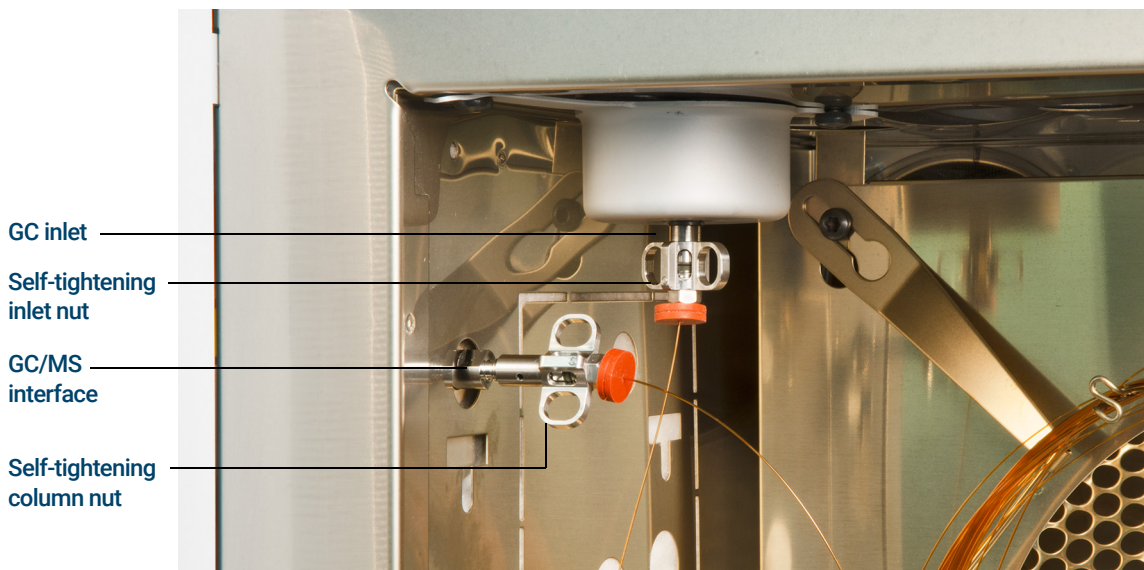

Figure 6. Installing a capillary column in the GC/MS interface
- 11 Hand-tighten the nut. (See **Figure 6**.) Ensure the position of the column does not change as you tighten the nut.